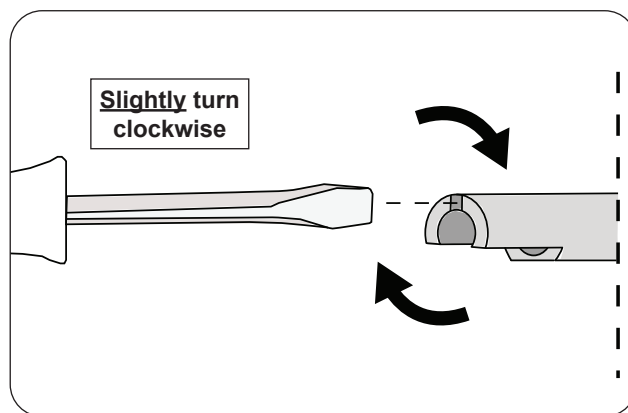

Fig. 35-2 Stem adjustment
2. Insert a flathead screwdriver into the split portion of the stem and **GENTLY** turn the screwdriver clockwise. Be cautious! Only a slight turn is needed as the stem is flexible. See Fig. 35-2.